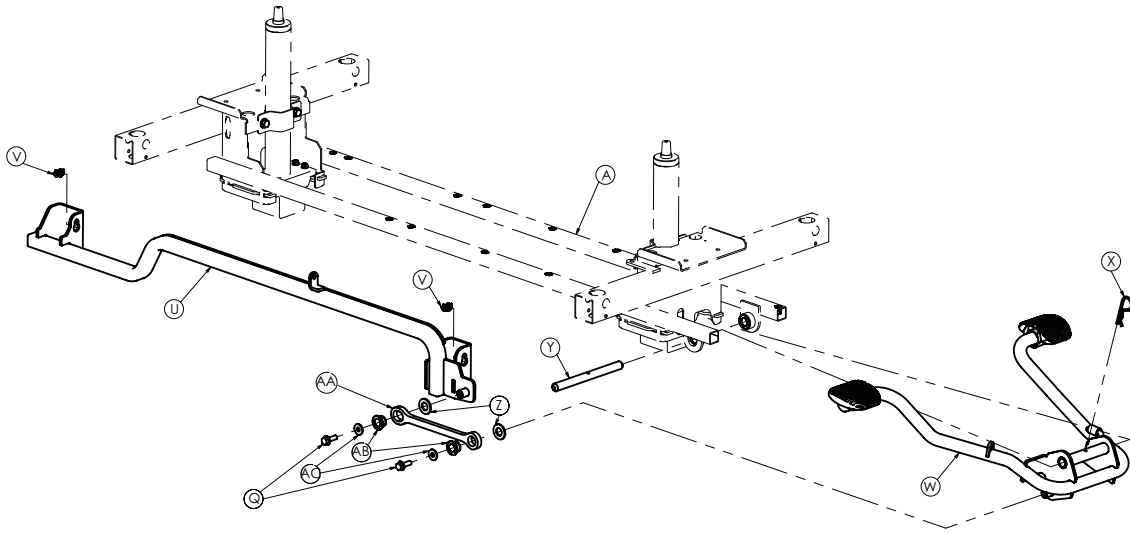

Figure 11 – Pump pedal replacement
2. Use a 13 mm socket wrench with a 3/8" drive extension and a 3/8" drive ratchet to remove the hex head bolts (Q) that secure the pump pedal link (AA) to the pump pedal (W) (Figure 11).